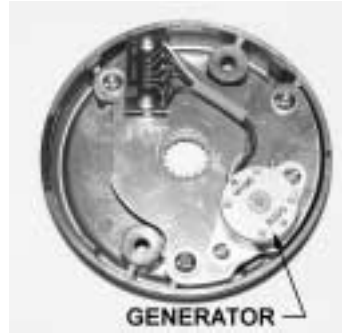

Figure 5 - Cable Guide Locators
6. Depending on the thickness of the container, additional cable guides may be necessary to ensure the cables are sufficiently restrained. Some possible locations are shown in Figure 5. Install additional guides as needed, and route the LCD and generator cables through them to ensure that the cables do not get routed through the "KEEP CLEAR" area.